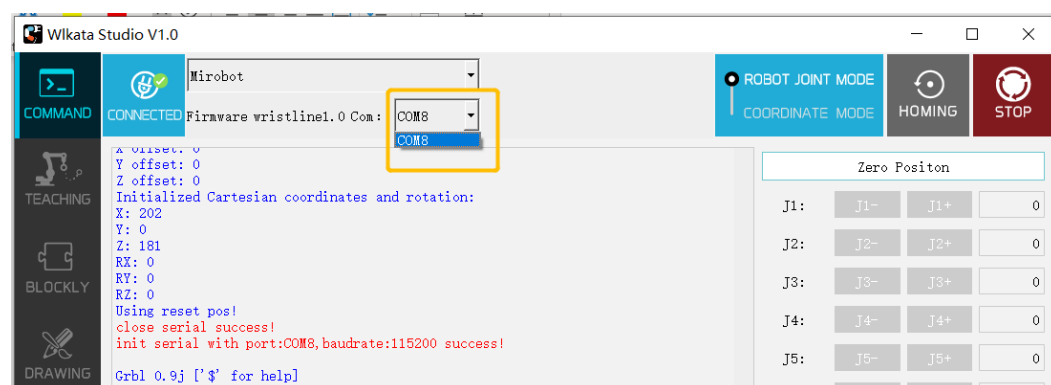

Figure 3.10 Manually setting a serial port number in the upper second drop-down list if the manipulator is not connected automatically
(2) If the software did not connect to the manipulator automatically, please manually connect the manipulator by choosing the correct serial port COM_ number (as found in the step (2) in the content of 2.Verifying the driver) in the upper second drop-down list, as shown in Figure 3.10.